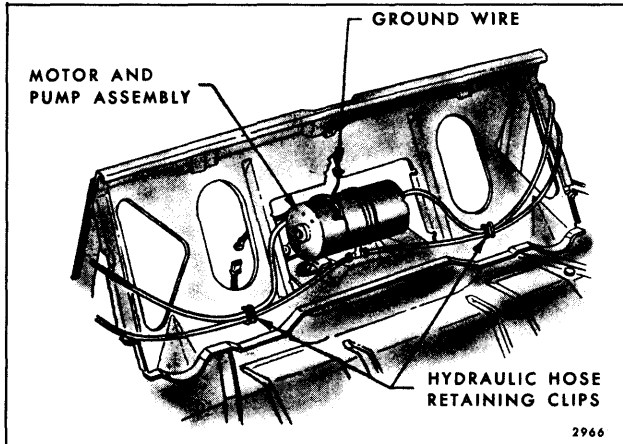
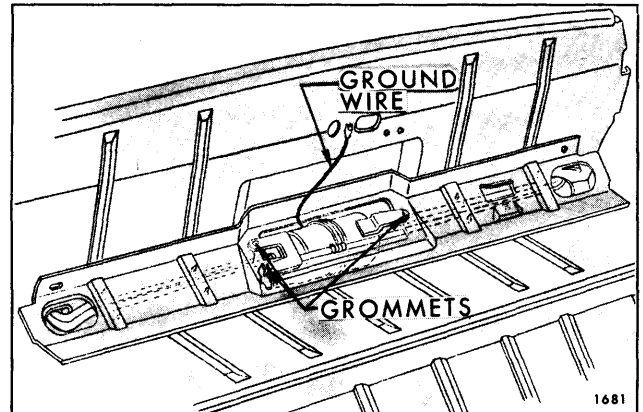

Fig. 13-57—Motor and Pump Installation "A" Styles Shown
Fig. 13-58—Motor and Pump Installation "B, C & F" Styles
The high pressure hydro-lectric unit used in the convertible bodies, consists of a 12 volt reversible type motor, a rotor-type pump, two hydraulic lift cylinders, and an upper and lower hydraulic hose assembly. On the "A" Series the unit is installed in the body directly behind rear seat back support (Fig. 13-57). On the "B, C & F" Series the unit is installed in the body beneath the rear seat back panel (Fig. 13-58).
7. To facilitate removal, apply a rubber lubricant to pump attaching grommets; then carefully disengage grommets from floor pan on "B, C & F" and from rear seat back support on "A" Body Styles (Figs. 13-57 and 13-58).
10. Disconnect hydraulic lines and cap open fittings to prevent leakage of fluid (Figs. 13-57 and 13-58). Use a cloth to absorb any leaking fluid, then remove unit from rear compartment.
- a. Check connection of motor ground wire to body metal. (See Figs. 13-57 and 13-58.)